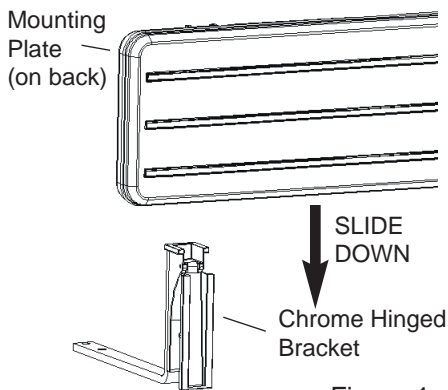

Figure 4
Step 7: Lining up both Mounting Plates on Tray Slide with the Tray Slide Brackets, slide the tray slide **down** onto the chrome hinged Tray Slide Bracket (see Figure 4).